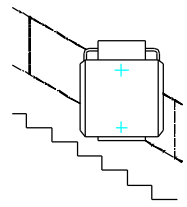

Fig. 4.1
6. With the user evacuated, push down hard on the barriers. **As the barriers fold down the platform will fold up (see fig. 4.1). The platform must now be locked with the padlock on the carriage.**